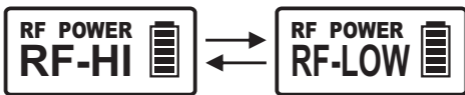

Fig. 8
5. RF Power Setting, Fig. 8:
- (A) RF Power can be changed to RF-HI or RF-LOW.
- (B) Press MODE button to access RF POWER parameter. Press SET button, the parameters start flashing. Press SET button again, the parameter will change circularly. Press MODE button to save or the parameter saves automatically when flashing stops.